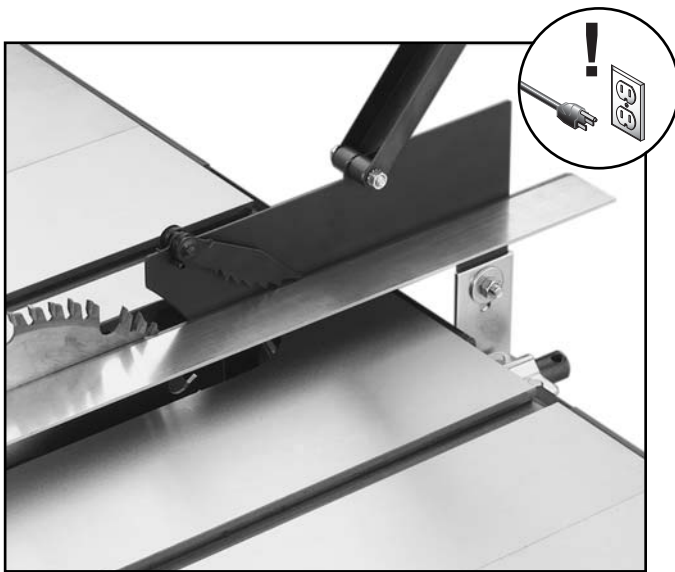

Figure 20. Guard in line with blade.
- Next, set a straightedge against the face of the saw blade and the blade splitter as shown in **Figure 20**. If the blade splitter is properly aligned, please skip ahead to **Page 26**; otherwise, continue with the next step.